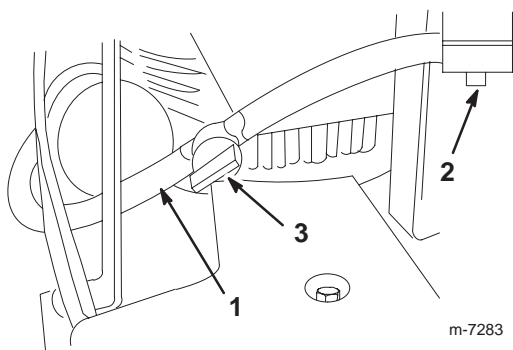

Figure 5
- Remove the red cap from the end of the fuel line and from the end of the elbow fitting on the fuel tank (Fig. 5).
- Slide the end of the fuel line onto the elbow fitting (Fig. 5).
- Secure the fuel line in place with the fuel line clamp (Fig. 5).